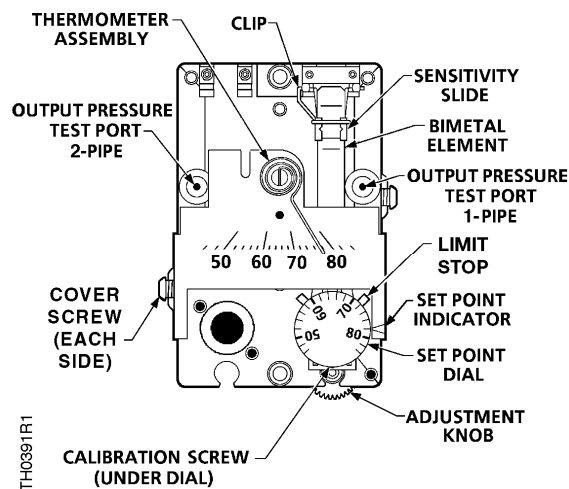

Figure 6. TH 192 S Thermostat Details.
2. Place a screwdriver in the center of the thermometer assembly (See Figure 6). Carefully rotate thermometer assembly until pointer tip indicates the correct room temperature.